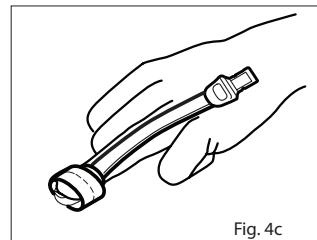

Fig. 4c
- Refer to Fig. 4c. Check the sensor to verify correct positioning and reposition if necessary.